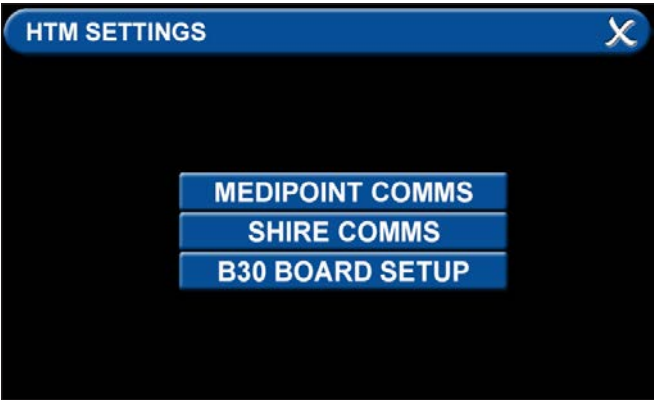

Figure 166: Shire Network Setup
- To transmit and recieve signals, the HTM Settings tab has to be initialized (Figure 166).